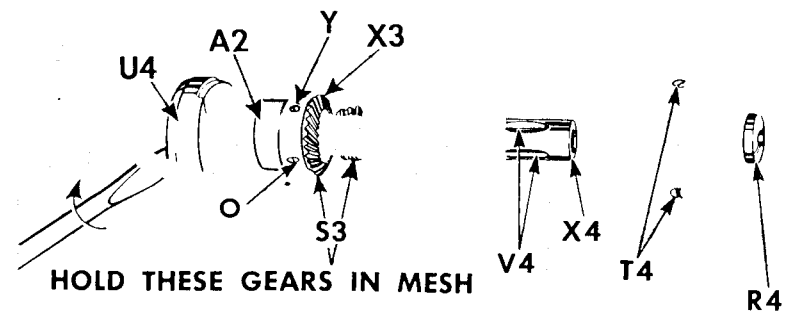

Fig. 68. Replacing the Arm Shaft
3. While still holding the bevel gears at **S3** in mesh, with a screwdriver, as shown in **Fig. 68**, push the arm shaft **X4** straight through the machine arm, the feed eccentric **U4** and the feed-eccentric-and-bevel-gear, **X3**, **Fig. 68**. (A light tapping with the palm of the hand, against the needle bar crank end, may be required.)
4. Replace machine pulley so that the two set screws **T4** will locate over the two grooves **V4**, **Fig. 68** on the shaft and securely tighten set screw **T4**.
8. Using a screwdriver, as shown in **Fig. 68**, move feed eccentric **U4** as close as possible to the connecting rod **A2**, **Fig. 68** and tighten the timing screw and two set screws in eccentric **U4**.